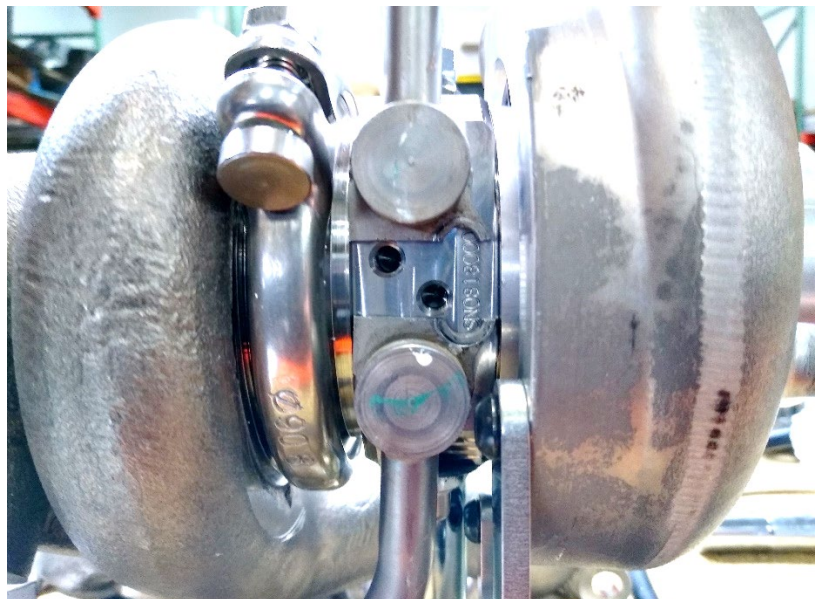

Figure 4
- Step 8:** The OEM hard coolant line attachment bracket needs to be cut in the center of the 2 cooling ports (See Fig. 4)